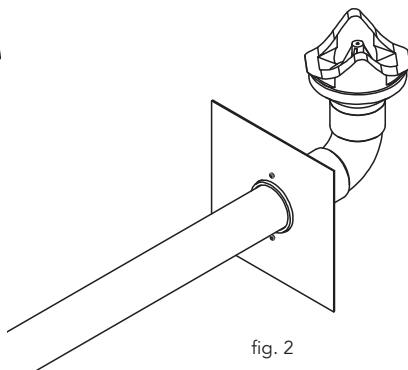

fig. 2
6. Do not disturb for 5 minutes and allow 24 hours curing before testing. (See Figure.2)